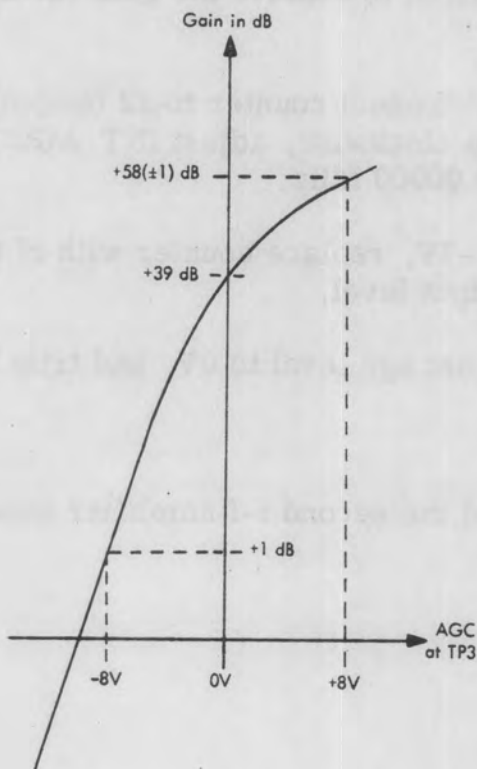

Figure 4. Gain vs. AGC Characteristic
- f. R3, R6, and R39 will be used to set the gain vs. agc as shown in figure 4. Connect the HP 355C and HP 355D attenuators between signal generator and J1 on test set. Set the generator 10 MHz and -25 dBm. Connect rf